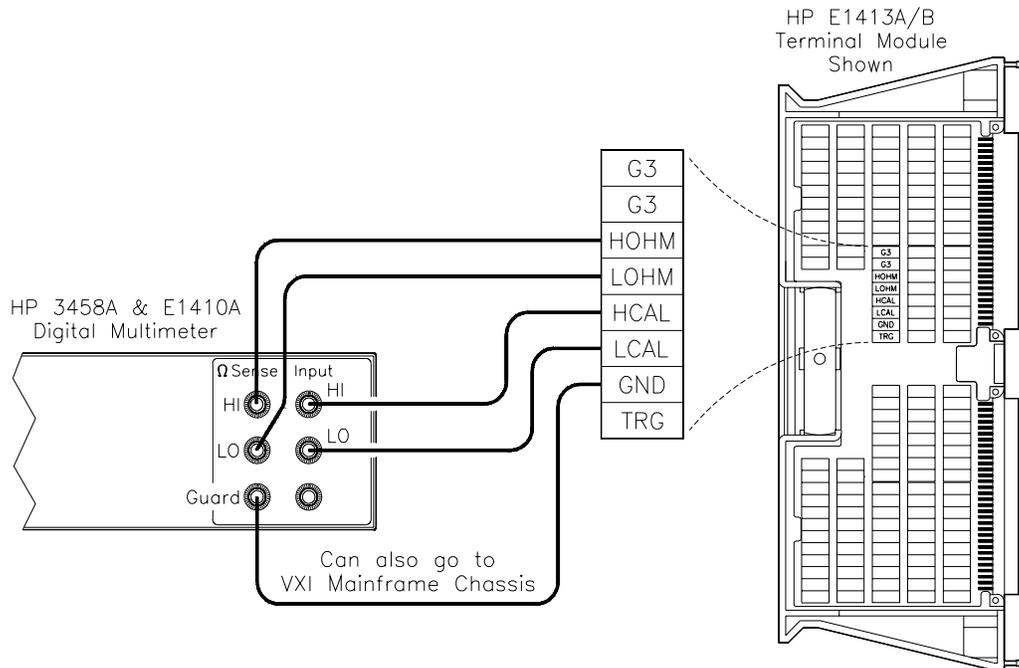

Figure 3-3. Terminal Module Connections
- Connect the equipment as shown in Figures 3-3 through 3-6, using the connections on the terminal module or the Cal Bus connections on the Scanning A/D.
[a] Make 4-wire resistance connections (see Figures 3-3 through 3-8)
[a] Make DCV connections (see Figures 3-3 through 3-8)